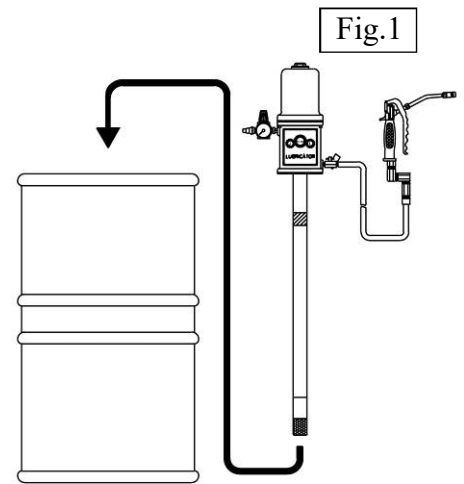
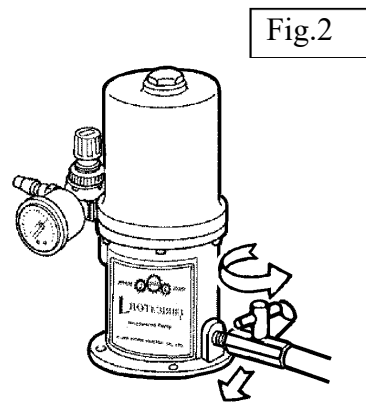

Fig.1
Fig.2
- (1) Put the pump into the original grease barrel. (Fig.1)
- (2) Connect the attached high-pressure hose and the high pressure grease gun to the discharge port of the pump.
- (3) When the air coupler is connected to the pump, the pump will be operated for a while, and the pump and hose will be filled with grease. After that, the pump operation will stop.
- (4) The first applied grease includes the internal air of the pump. This is not a good condition. Obtain a perfect condition by the next operation. First open the check valve and operate the pump until grease is discharged from a small hole under the check valve. (Fig.2)